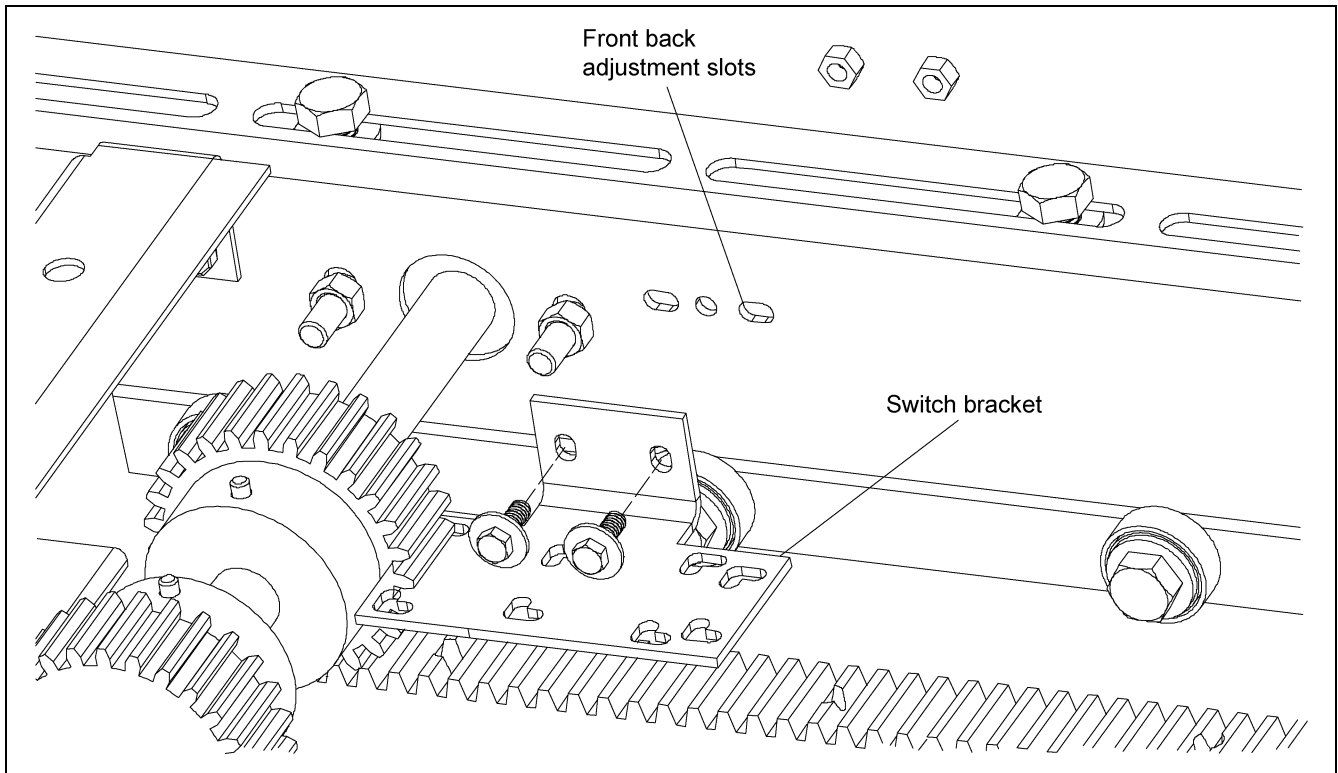
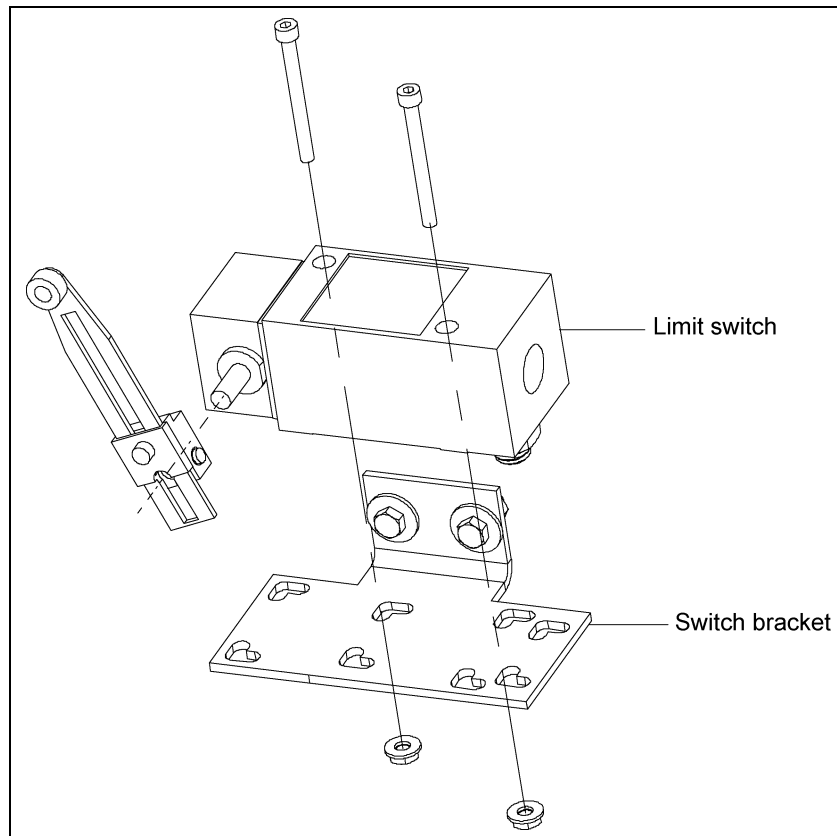

Figure 3E
Figure 3F
2. Attach the switch brackets to the inside of the gate as shown using hardware provided. *(See Figure 3E on Page 12.)* Attach limit switch to the bracket as shown *in Figure 3F on Page 12.*